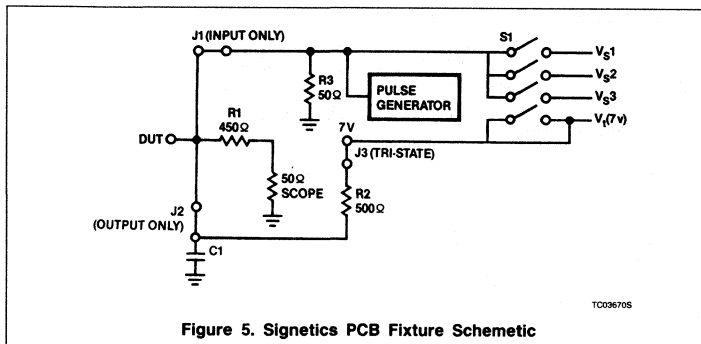
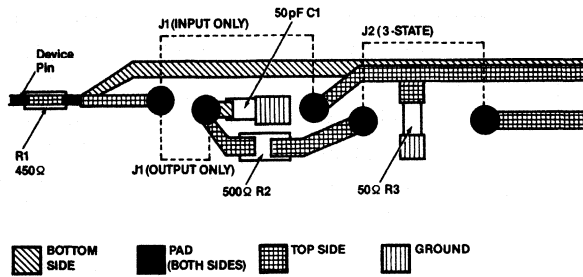

Figure 5. Signetics PCB Fixture Schematic
Figure 6. Signetics Fixture - Board
There are two types of signal lines on this fixture: input and output; both of which are 50Ω transmission lines. The input line is on the top side of the board and is always terminated in 50Ω . It is connected to the DUT via a .3" jumper, Jumper #1 for input. When this jumper is installed, the DUT pin is available only as an input. To allow this line to be used as an output, a .1" jumper, Jumper #1 for output, is used instead of the .3" jumper. This connects the DUT pin to the AC load when the DUT pin is an output. See Figure 5.
hard to detect errors into the waveform. The second reason being that most suppliers of these technologies provide data based upon the Low-impedance approach and most large users of these products do so as well. This also allows the fixture to be used for ECL testing since that product uses a totally 50Ω environment. Figure 5 illustrates how this test fixture implements the 50pF/500Ω load schematically.
As illustrated in Figure 5, the load is shared with the 50Ω input of the measurement system; a 50Ω sampling oscilloscope. The 450Ω resistor: R1, is soldered to the socket pin of the device and is in series with the 50Ω input of the scope. Figure 6 illustrates this on the board layout of one input/output pin. This allows virtually a probe tip on the device pin. The load capacitor: C1, is a 33pF ceramic chip capacitor. This is added to the measured value of 17pF of board capacitance, achieving the 50pF value specified for the load. The distance from the pin to the capacitor is .5 inches and is adequate for the testing of these product families.
For testing 3-State parameters, the 500Ω resistor: R2, is connected to it's pullup supply. V_T via a .3" jumper: Jumper #2. The V_T supply is bussed to each pin and may or may not be connected with that jumper. See Figures 5 and 6.
When the input is not used for a signal input, the line may be switched to one of three voltage sources: $V_S 1$ through $V_S 3$, by the use of a DIP switch on each pin. It may also be left open and then the 50Ω pulldown resistor: R1, pulls the line to ground and can be used as a hard low level. See Figure 5. These voltage levels are brought in from external supplies through banana connectors like V_{CC} . This scheme eliminates excessive cabling to each input to provide the static input levels and thereby reduces parasitic inductances and cross-talk. Each of the 3 busses and the V_t bus all have places for bypass capacitors in the event of noise on the static levels. Figure 8 illustrates the DIP switch and SMB connectors and how they control the input stimulus and output measurement.
As stated previously, the measurements are made with 50Ω sampling systems. The connections to these systems are made via SMB connectors. This was chosen since it is compatible with SMC; it is push-on, it is small for easy configuration, and it is capable of high bandwidth operation. Figure 8 illustrates where the connections are made, where the pulse generators connect to the input and an SMB connector. Since the 450Ω resistor: R1, is soldered directly to the pin of the device, the actual probe tip is at that point. See Figure 6. This has the advantage of eliminating any distance from the device to the probe tip, thus guaranteeing accurate results.
dedicated fixture. However, on a dedicated fixture, the pins are individually constructed to be either an input or an output, and in so doing, the fixture is usable for 1-to-4 devices. The Signetics fixture, once dedicated to a particular V_{CC} and GND configuration, is built up to have both input and output components on all signal pins. The selection of which pin is an output or an input is made by inserting the appropriate jumper, See Figures 5 and 6. The same applies in doing tri-state testing. The tradeoff here is that it would probably take less time to setup the dedicated fixture than the Signetics fixture. To help compensate for that tradeoff, we have the three V_S supplies that may be switched into any pin to provide input static levels and eliminate the need to bus input High or Low levels by external cabling. For the user that means the only connections being made to the fixture are:
- the V_t supply (banana jack): this is the 3-State pullup voltage and is permanently connected to the bus to each pin. It is selectable by Jumper #2, see Figures 5 and 6. For FAST and ALS products this is 7V. For ACL products this is $V_{CC} \times 2$ and it is not used for ECL applications.